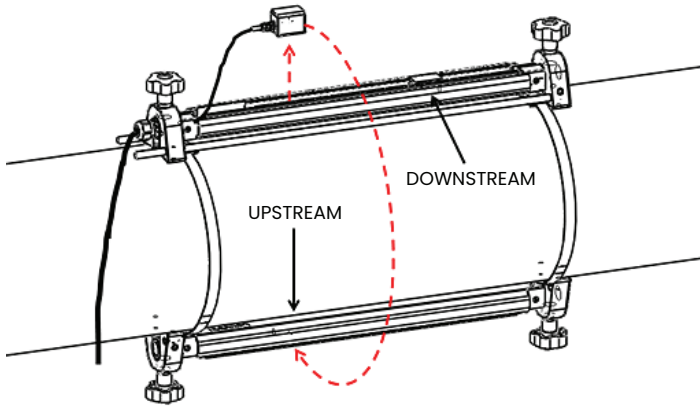

Figure 20: Relocate the upstream transducer
- Remove the upstream transducer from the first fixture (see figure 20 below). Disconnect the transducer cable and route the cable into the second fixture.